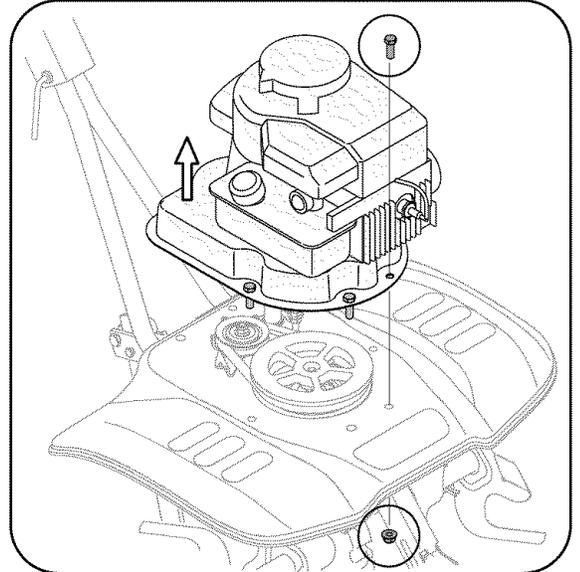

Figure 9 - Remove engine and frame to gain access to the belt.
1. Remove the frame and engine by removing the six screws and lock nuts holding the engine and frame to the shield, Figure 9.